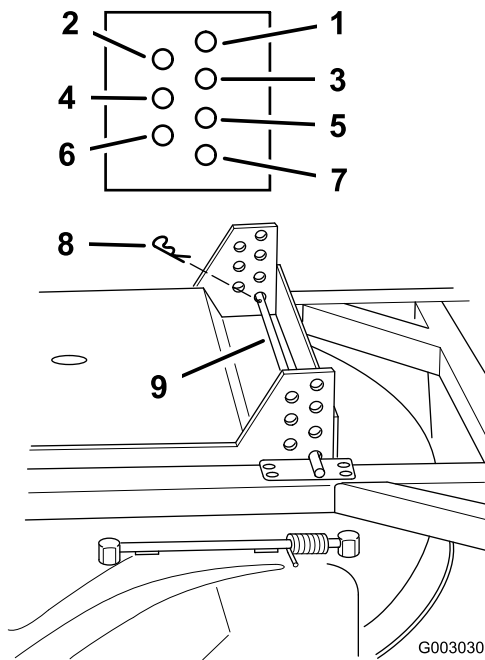

Figure 20
2. Remove the hairpin cotter and relocate the support rods in different hole locations in the brackets at each corner of the mower (Figure 20).